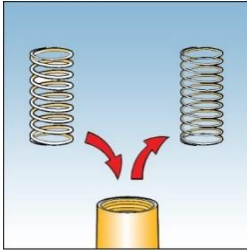

Fig. 10
34. Remove spring and replace with new one. See Fig. 10.